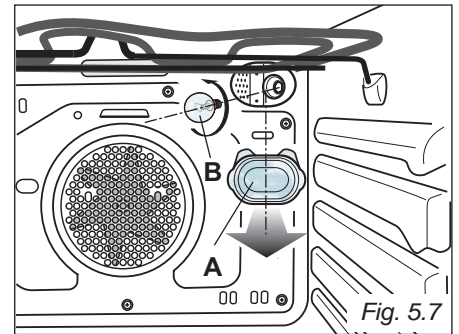

Fig. 5.7
REPLACING THE OVEN LIGHT (fig. 5.7)
- Remove the protective cover (fig. 5.7);